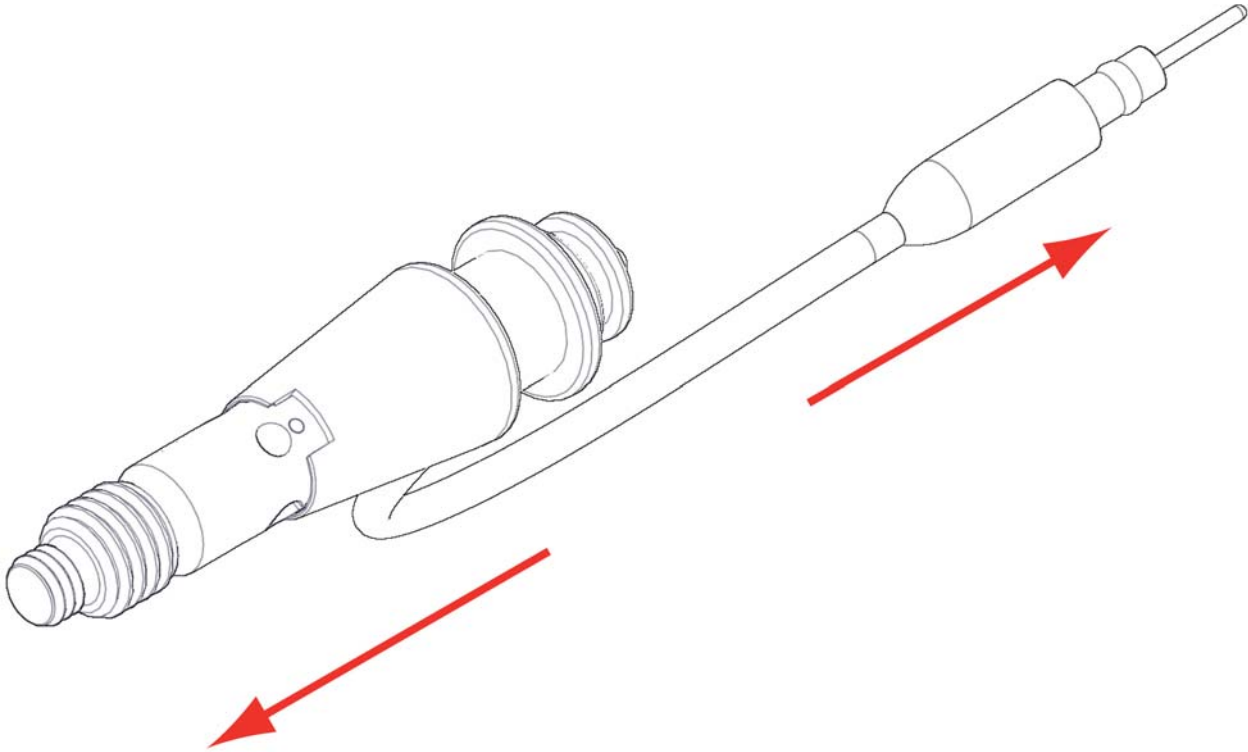

Figure 2-17 *Pulling apart the release housing and threaded stud.*
5. Ensure that the release housing and the threaded stud are securely fastened by attempting to pull them apart (Figure 2-17). They should be attached firmly and not come free.